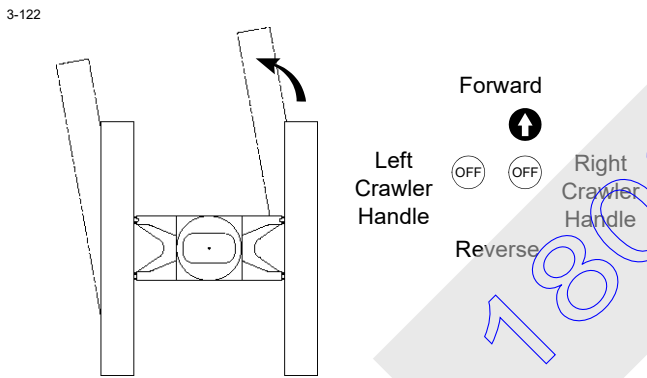

FIGURE 3-23
- Avoid sharp turns (Figure 3-23) if possible
- 8. To make a SHARP LEFT TURN (Figure 3-23), move right crawler handle forward from off and leave left crawler handle in off. Crane will pivot about left crawler.